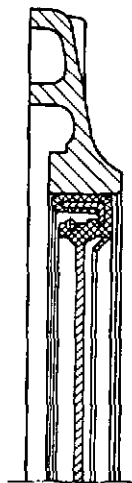

Fig. 3
- Install seal offset by 2 mm (.079") inward so that contact surface of sealing lip is axially displaced (Fig. 3).